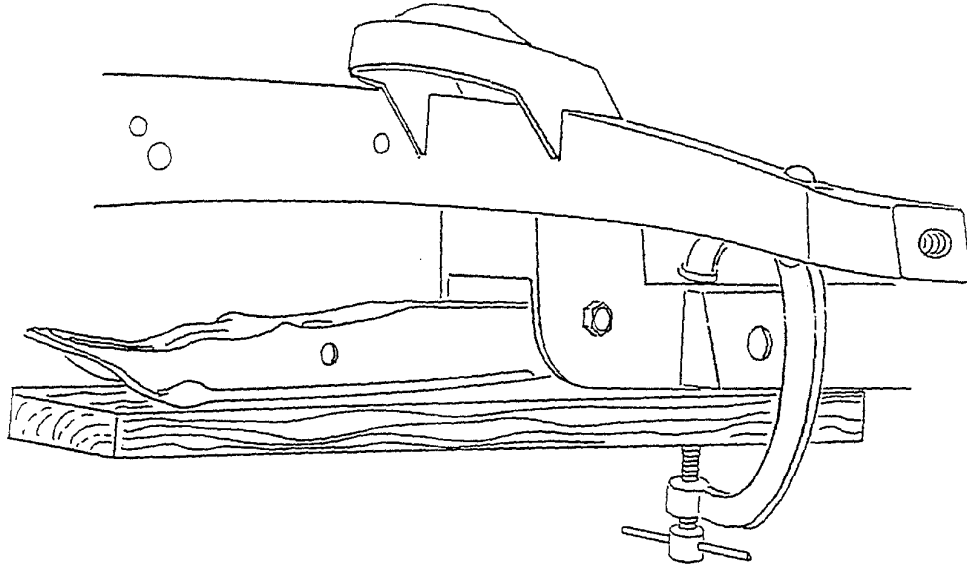
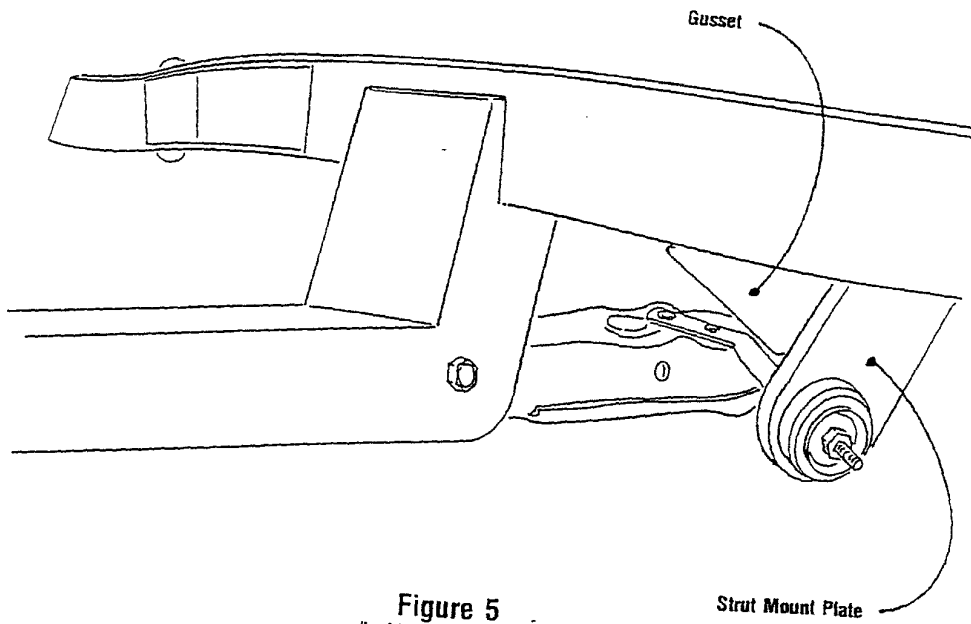

Figure 4
Figure 5
7. You will use the lower control arm and strut rod for locating the rear strut rod supports and gussets. Using a 2 x 4 and a C-clamp, install the control arm as shown in Figure 4. Also install the strut rod. The Pinto and Mustang strut rods are different lengths. We recommend the Pinto strut rods, as they are shorter and will position the strut rod plates more closely to the underside of the frame rails. The Mustang strut rods can be used, however, by heating the rod at the bend at the ball joint end and bending out enough to align the strut plate to the bottom of the frame. Now, assemble onto the strut rod end the large rubber bushings, including the cupped washers, and the strut mount plate. Be certain to fully tighten the nut on the strut rod to its' fully seated position. (See Figure 5.) There are two rubber bushing sets available; the standard replacement and the improved set. We recommend the improved set, as it provides more stability to the front suspension. The strut rod will act as an alignment fixture while you tack weld the mount plate in place, then tack weld the gusset in place, as shown in Figure 5. Remove the strut rod, bushings, and arm, and finish welding.